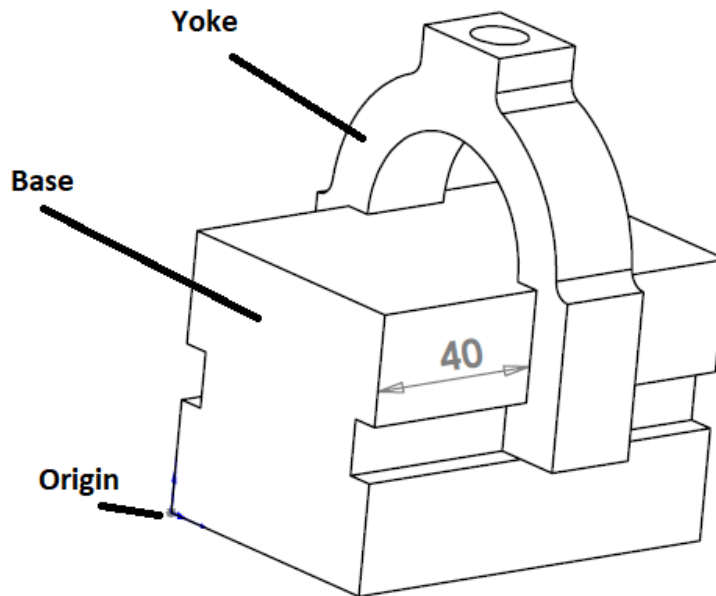

Figure 6.1
- b) In Figure 6.1, the distance between the front face of the Base and the front face of the Yoke = 40 mm. Determine the centre of mass in millimeters of the assembly. You need to provide the Figures of Assembly, and Mass Properties. (5 Marks)